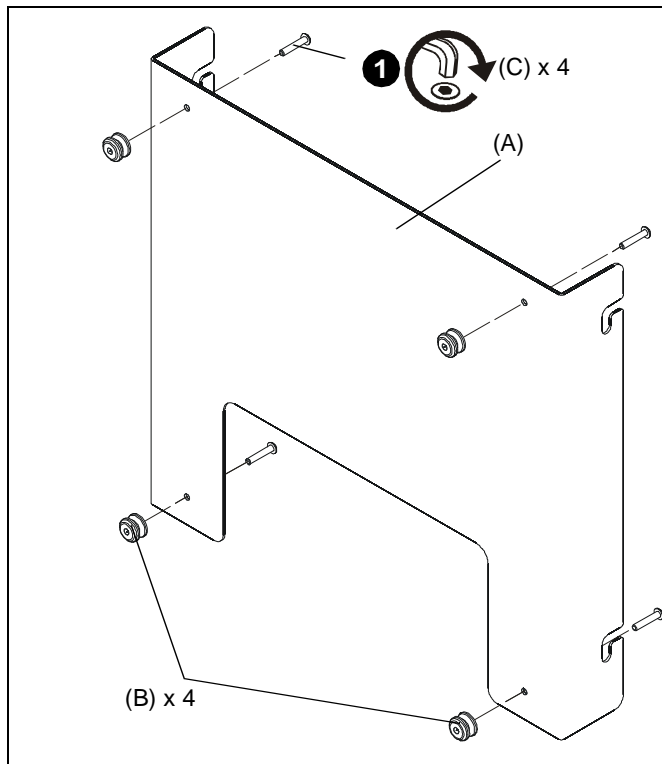

Figure 1
1. Attach mounting buttons (B) to interface bracket (A) using four #10-24 x 1/2" button head cap screws (C) and a 1/8" hex key (F). (See Figure 1)